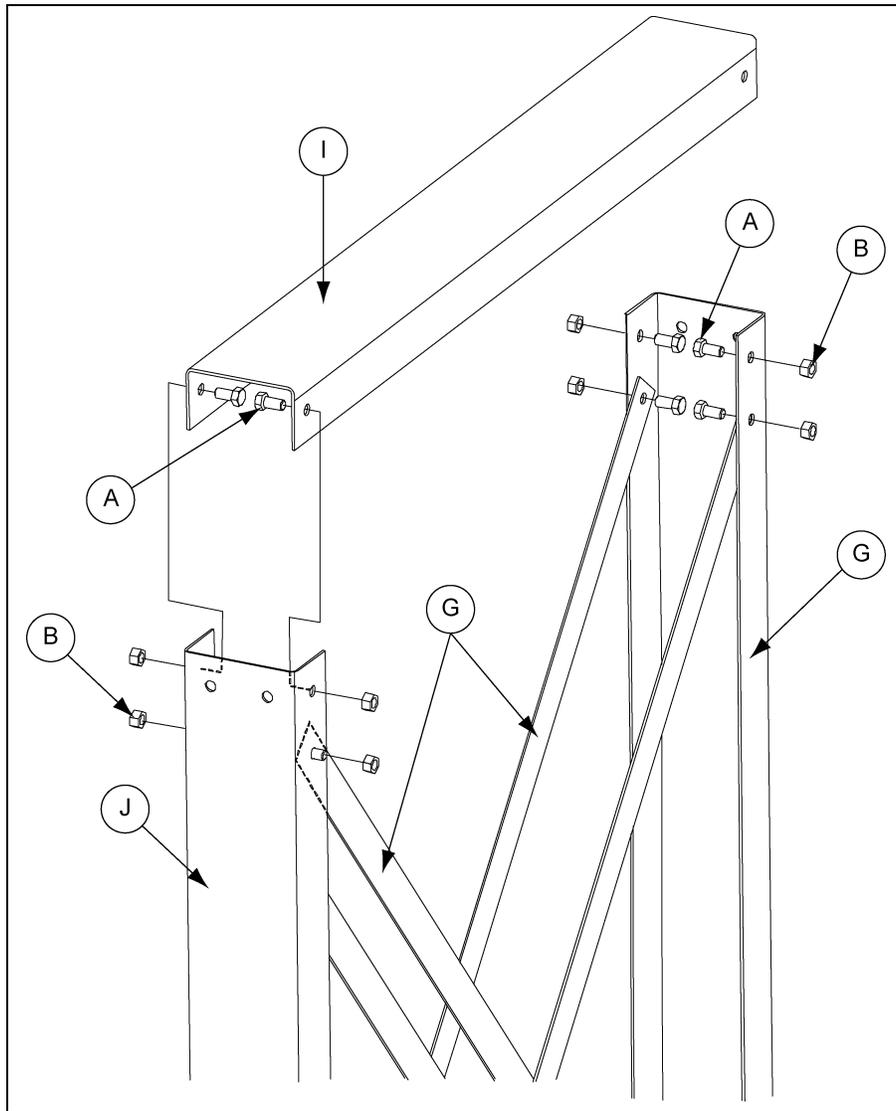

Figure 2R
6. Install an “H” channel brace (**STC00350**) to the top of the columns and “X” bracing as shown using four (4) 1/2" x 1" HHCS bolts and nuts. (See *Figure 2R.*)